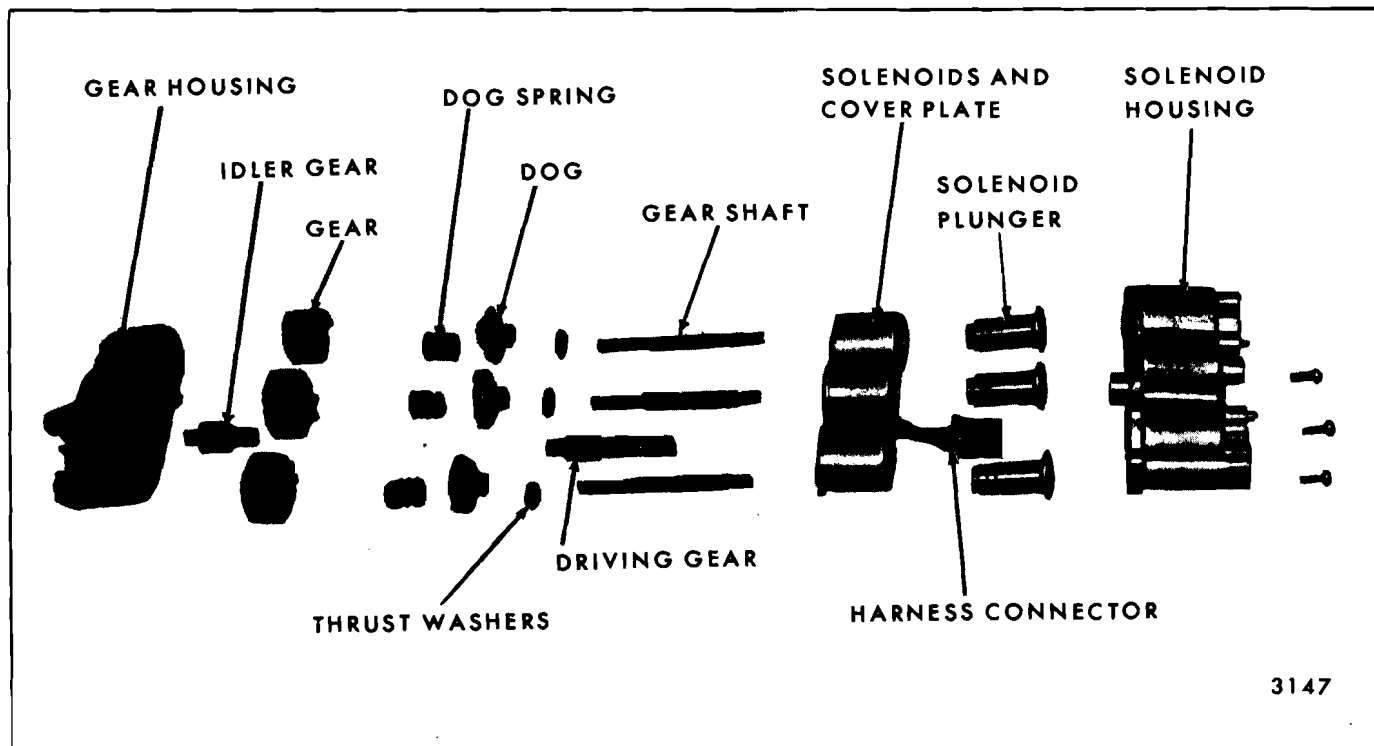

Fig. 15-25—Six-Way Seat Adjuster Transmission - Disassembled - Buick, Oldsmobile and Cadillac 60-40 Seats
2. Remove screws securing solenoid housing to gear housing; then, carefully separate housings and remove component parts of transmission assembly (Fig. 15-25).